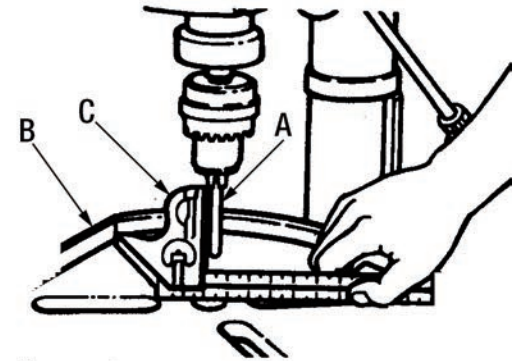

FIGURE 21
1. Insert a precision round steel rod (A) Fig.21 approximately 3" long into the chuck and tighten.
2. With the table (B) raised to working height and locked into position, place a combination square (C) flat on the table beside the rod.
3. If an adjustment is necessary, loosen the table bevel lock bolt (D) with an adjustable wrench and loosen the set screw (E) below the table bevel lock bolt. These adjustments are located under the table.
To use the table in a bevel position, loosen the bevel lock bolt (D) Fig.21 with an adjustable wrench. Tilt the table to the desired angle by reading the bevel scale on the table support. Retighten the bevel lock bolt.